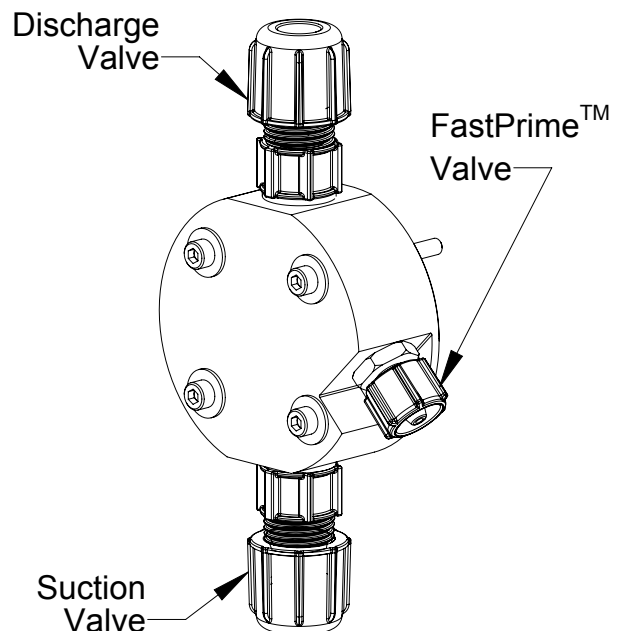

FIGURE 3
1. Connect the 3/8" outer diameter clear vinyl tubing provided with the pump to the FastPrime™ Valve barbed nozzle (Figure 3). Route tubing to the solution tank. This tubing must not be submerged in the solution.